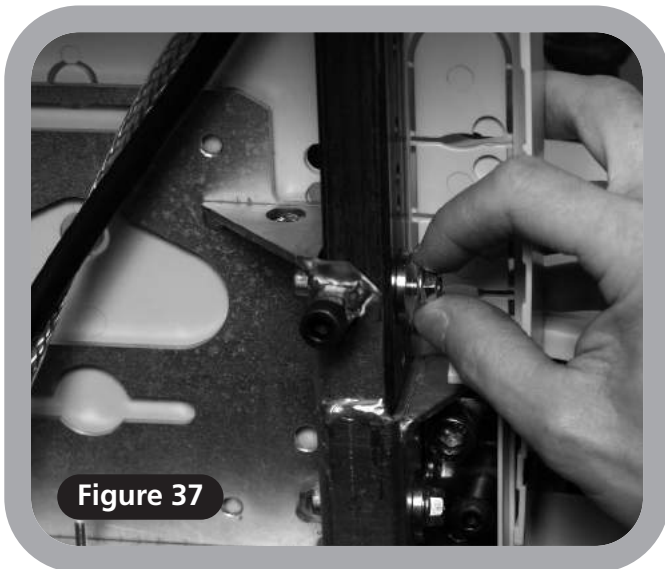

Figure 37
- 2 Load the seat base and feed the two seat post retaining bolts through the washers and the seat stems into the bottom front chassis; selecting the appropriate seat height for the client by using the holes corresponding to the height that is required (**Figure 37**).